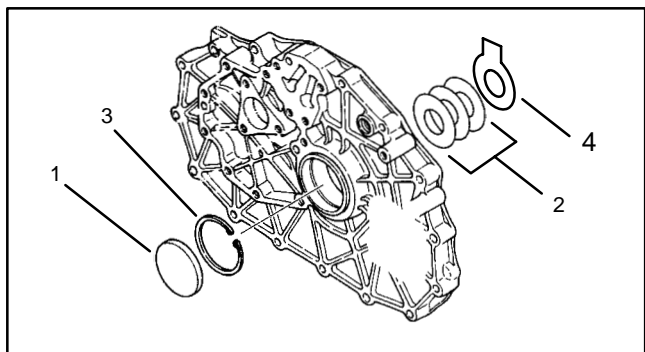

Figure 75
**IMPORTANT:** Newer versions of the center plate have one tabbed shim (Item 4) with three tabless shims (Item 2) (Fig. 75).
9. Inspect both snap ring (item 3) and shim(s) (items 2 and 4) for damage. Replace all parts if any part is cracked or broken (Fig. 75).